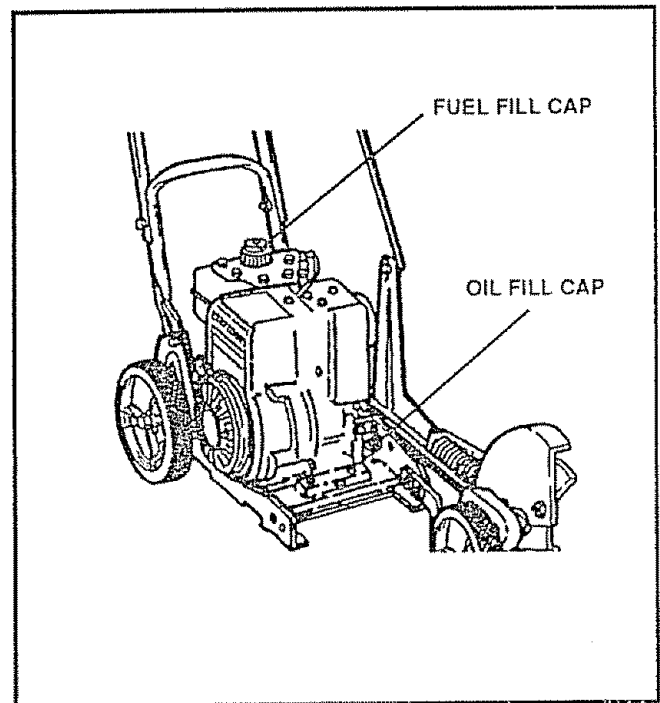

FIG. 7
The engine on this edger was shipped with little or no oil. Add oil before you start the engine. Place the edger on a level surface. Remove the oil fill cap (Fig. 7). Fill the engine crankcase to point of overflowing using about 21 ounces (1-1/4 pts) of Sears SAE 10W-30 motor oil or equivalent. Reinstall the oil fill cap.
Fill the fuel tank (See Fig. 7) with clean, fresh, unleaded grade automotive gasoline. Be sure that the container you pour the gasoline from is clean and free from dust or other foreign particles. Never use gasoline that may be stale from long periods of storage in the container.
- Remove the oil fill cap (See Fig. 7), and fill the crankcase to the point of overflowing, using about 1-1/4 pints of Sears SAE 10-W30 motor oil or equivalent.